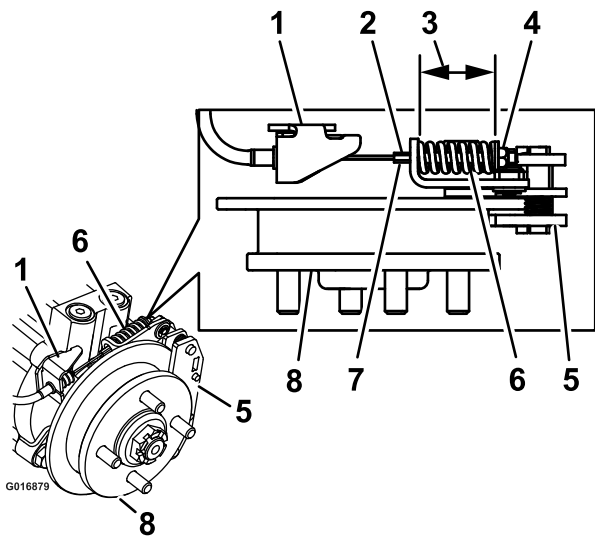

Figure 80
9. Hold the threaded rod end with a tool and adjust the lock nut until the spring length is between 1-1/2 and 1-9/16 inches (3.8 and 4.0 cm) (Figure 80). Do Not allow the cable to turn when the nuts are being loosened.